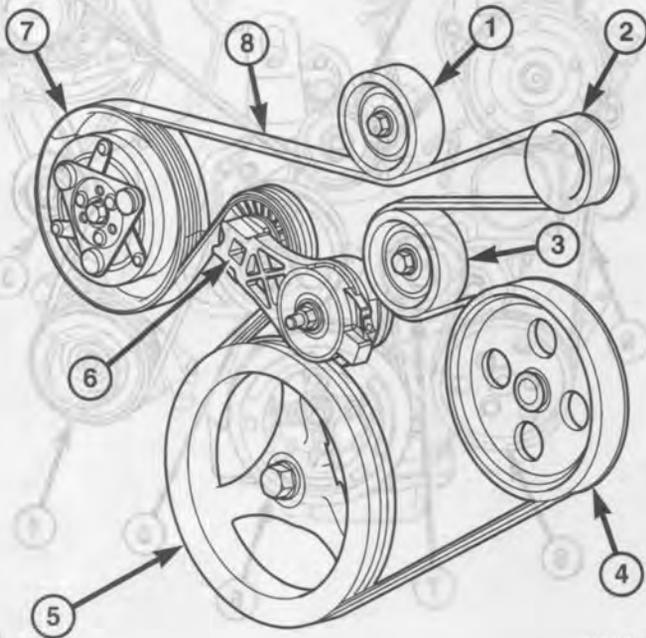
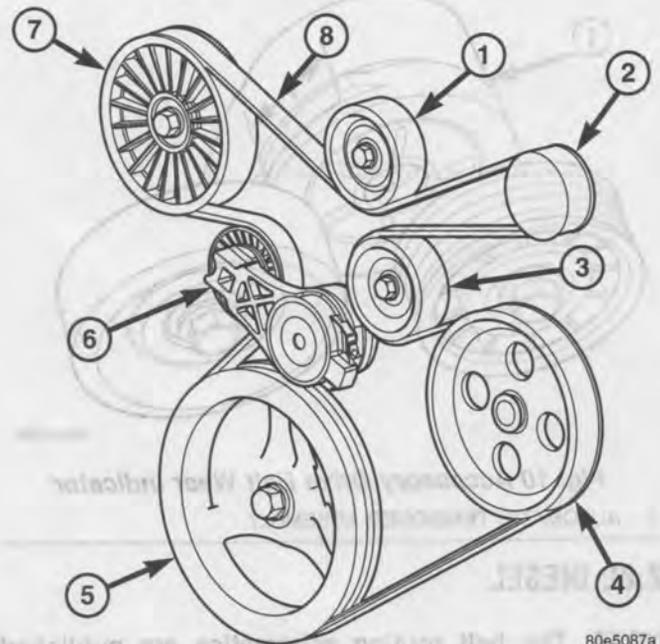

Fig. 8 Belt Routing 2.4L With A/C
Fig. 9 Belt Routing 2.4L Without A/C
(2) Install new belt (Fig. 8) or (Fig. 9). Route the belt around all pulleys except the idler pulley. Rotate the tensioner arm until it contacts its stop position. Route the belt around the idler and slowly let the tensioner rotate into the belt. Make sure the belt is seated onto all pulleys.